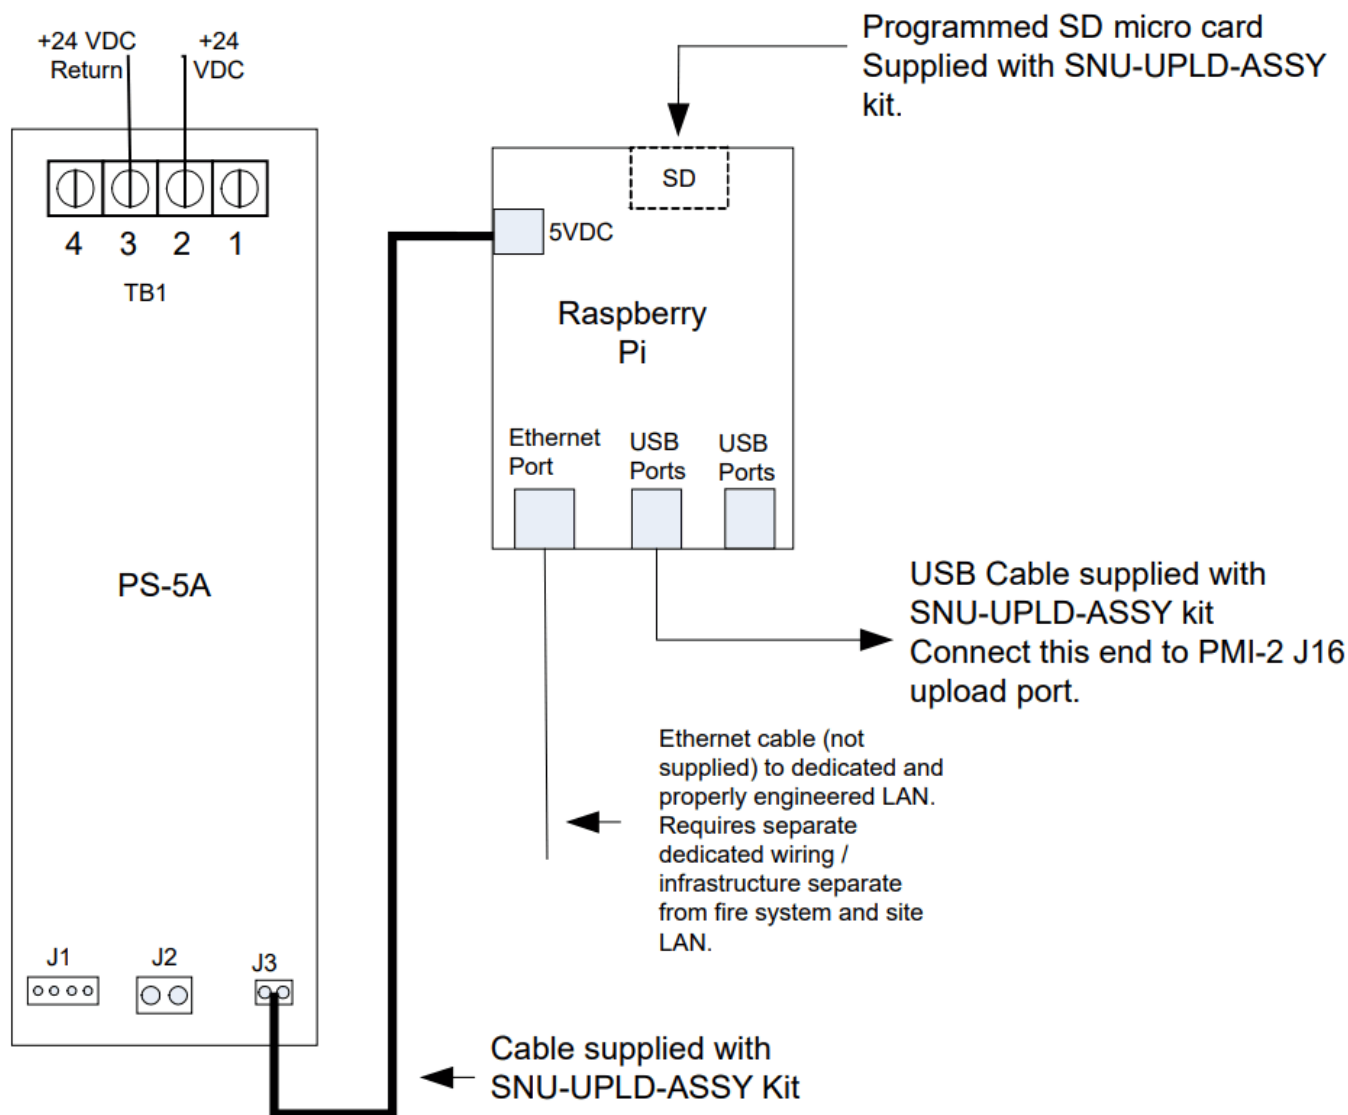

Figure 7 SNU Assy Wiring for PMI-2
1. Mount the enclosure in the desired location (including conduit connection with XLS PMI enclosure for power and communication cables). Refer to Figures 7 and 8 for installation requirements.
7. Once a successful login is achieved, the SNU Assy programming page is presented (see Figure 7). Enter the last field of the IP address (see arrow) that is desired for the connected SNU Assy. The value must be between 101 and 164. It is highly recommended that the XLS node number be used and added to 100 for ease of access to all technicians. For example, node 1 should be given the address 101 for a full IP address of 192.168.251.101. Once the desired address is entered, press the submit settings button.